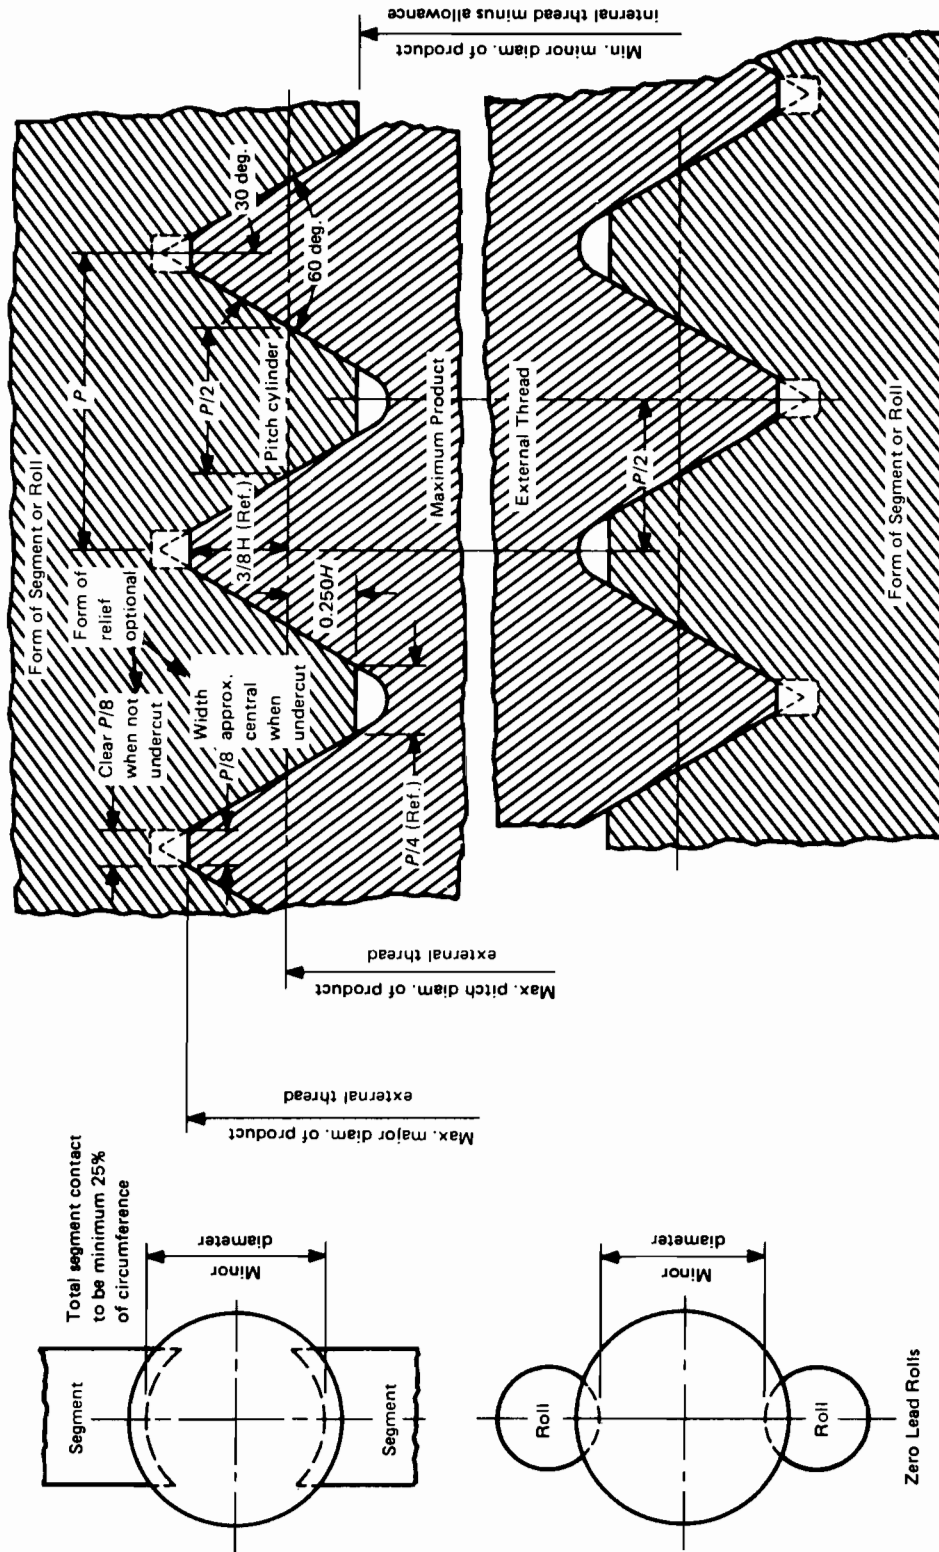

FIG. 20 THREAD SNAP GAGES — MAXIMUM-MATERIAL GO FUNCTIONAL LIMIT
5.3.3 Thread Form. The specifications for thread form are summarized in Table 4 and Fig. 20.